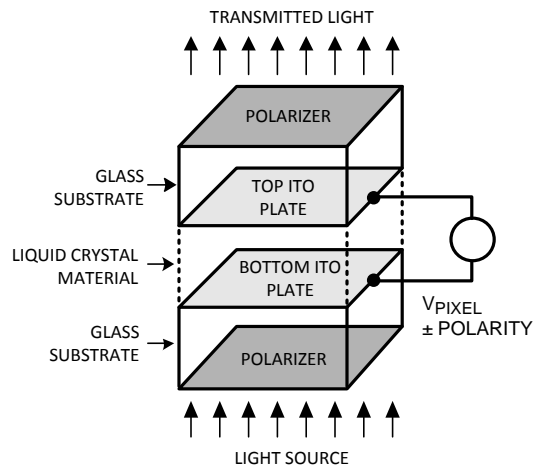

Figure 26. Individual LCD Pixel
To better understand these op amp applications, let's first review a few basic concepts of how a TFT display operates. Figure 26 is a simplified illustration of an LCD pixel. The top and bottom plates of each pixel consist of Indium-Tin oxide (ITO), which is a transparent, electrically conductive material. ITO lies on the inner surfaces of two glass substrates that are the front and back glass panels of a TFT display. Sandwiched between the two ITO plates is an insulating material (liquid crystal) that alters the polarization of light to a lesser or greater amount, depending on how much voltage (V_{PIXEL}) is applied across the two plates. Polarizers are placed on the outer surfaces of the two glass substrates, which in combination with the liquid crystal create a variable light filter that modulates light transmitted from the back to the front of a display. A pixel's bottom plate lies on the backside of a display where a light source is applied, and the top plate lies on the front, facing the viewer. On a Twisted Neumatic (TN) display, which is typical of most TFT displays, a pixel transmits the greatest amount of light when V_{PIXEL} is less than $\pm 0.5V$, and it becomes less transparent as this voltage increases with either a positive or negative polarity. In short, an LCD pixel can be thought of as a capacitor, through which, a controlled amount of light is transmitted by varying V_{PIXEL} .